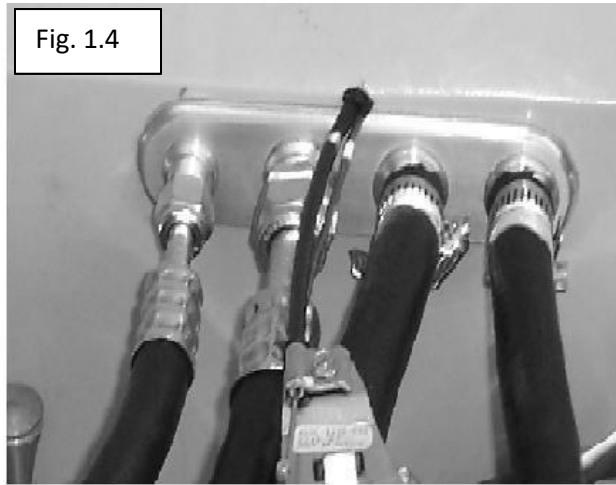

Fig. 1.4
- 9) If you are using a bulkhead fitting on the firewall mount the evaporator unit first then find an area for the bulkhead fitting on the firewall. Mark where the bulkhead fitting will mount then run the hoses to that point on the firewall. If the hoses are not kinked, and out of the way the bulkhead will be ok to mount. The bulkhead can be mounted at your discretion. We normally mount the bulkhead during step six. It is better to have all of the components in the vehicle before cutting holes into the firewall. Figure 1.4